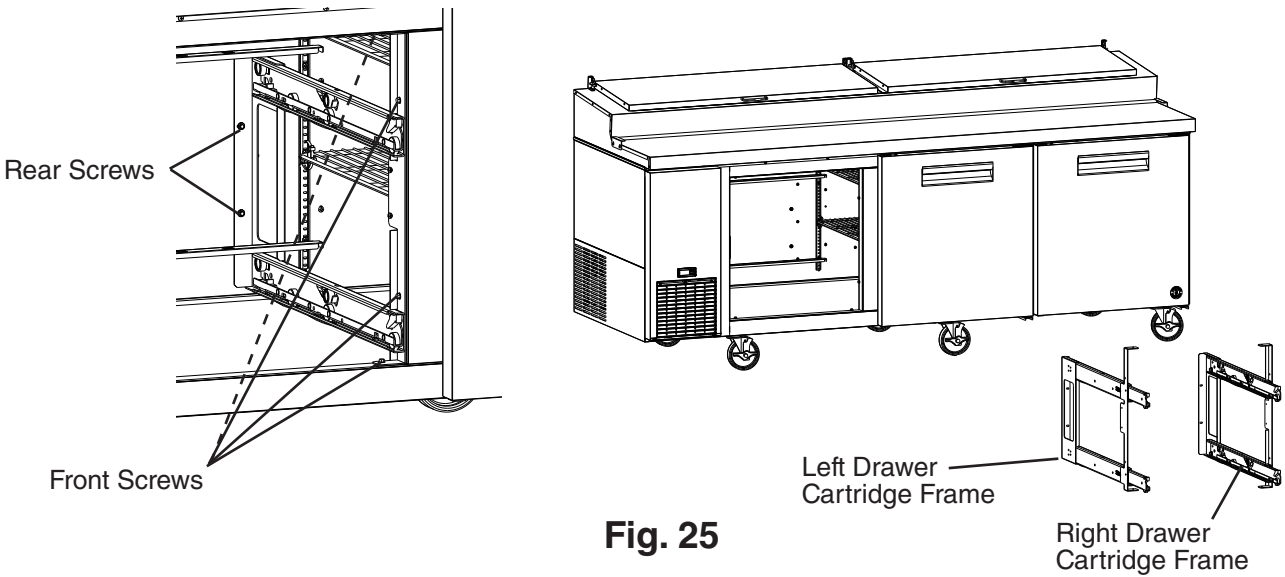

Fig. 25
- 4) Remove the 4 rear screws from the left and right drawer cartridge frames (2 per side). See Fig. 25.